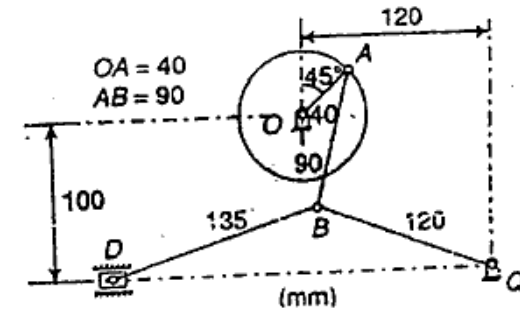

Fig. 4
- (b) Fig. 4 shows a toggle mechanism in which the crank OA rotates at 120 rpm. Find the acceleration of the slider at D.